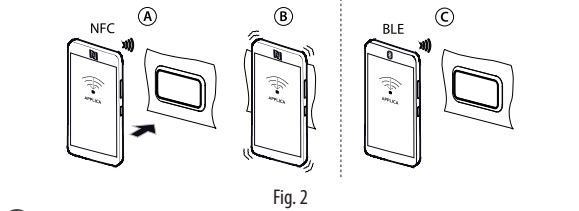

Fig. 2
- move the mobile device near to the user terminal, maximum distance 10 mm, to recognise the configuration (Fig. 2 - **ref. A**);
- move the mobile device near to the user terminal again to upload the configuration parameters (Fig. 2 - **ref. B**);
- move the mobile device near to the user terminal, maximum distance 10 m, to recognise the configuration (Fig. 2 - **ref. C**);